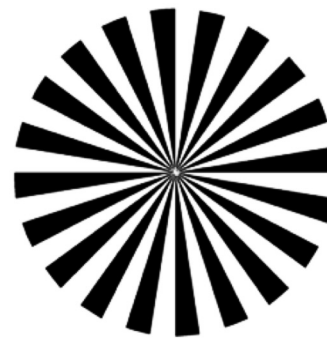

Figure Q2 (ii)
- i) the optical shaft encoder shown in Figure Q2 (i). (4 marks)